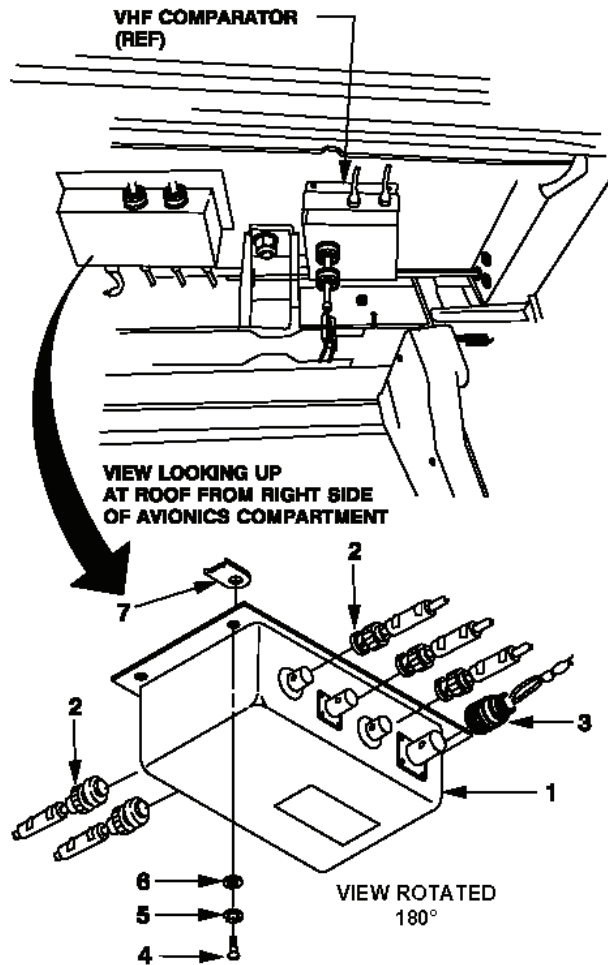

Figure 13
m. Remove FM Antenna Coupler (See Figure 13.) (CDS2 aircraft)
(1) Disconnect five coax connectors (2) from antenna coupler (1).
(2) Disconnect electrical connector (3) from antenna coupler (1).
(3) Retain and secure electrical connector.
(4) Support antenna coupler (1) and remove four screws (4), lockwasher (5), and washers (6). Retain for later use.
(5) Remove antenna coupler (1) from helicopter.
(6) Remove the three coax cables (2ARC186-34A, -35A, and -36A) between coupler and comparator.
(7) Disconnect cable from L/H homing antenna, and remove cable 2 ARC 186-39A from coupler to antenna.